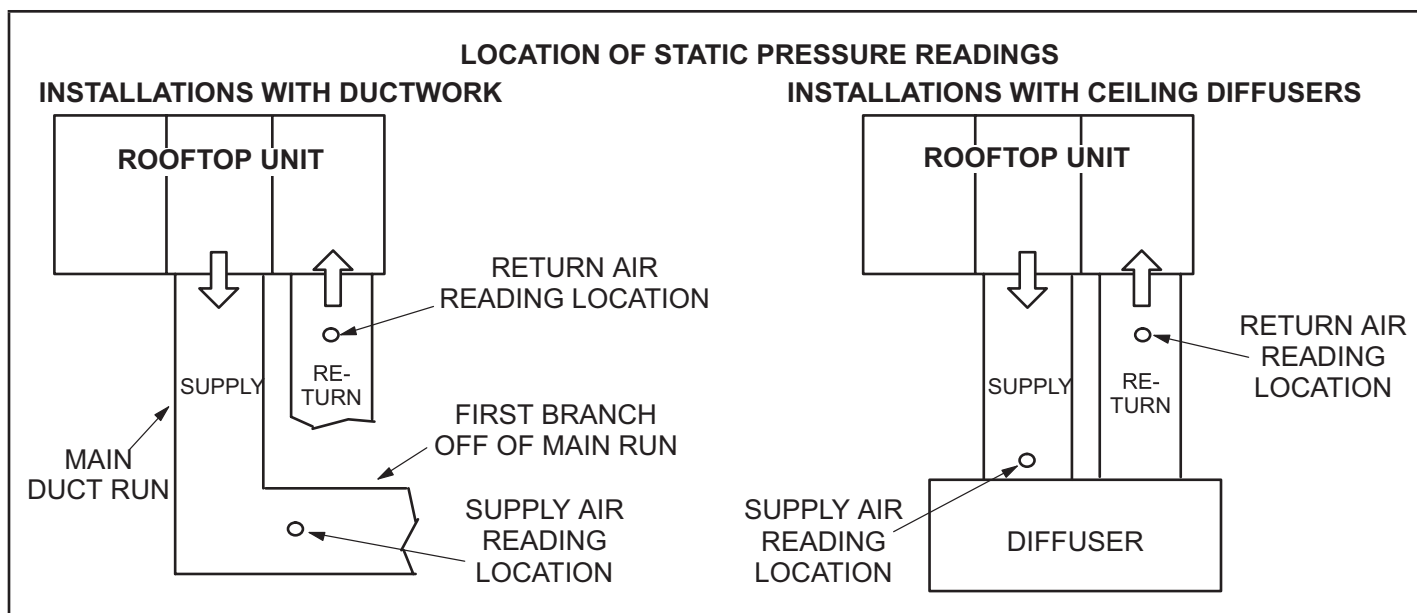

Figure 28
2. With all access panels in place, measure static pressure external to unit (from supply to return). Blower performance data is based on static pressure readings taken in locations shown in Figure 28.